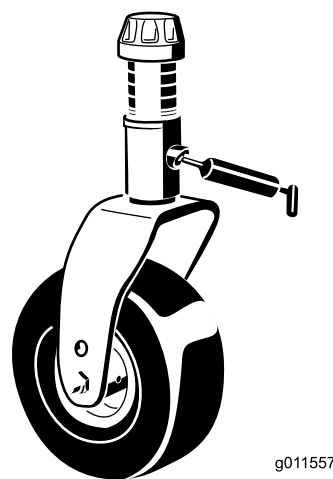

Figure 12
Castor wheel shaft (2) (Figure 12)